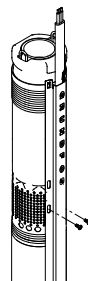

Fig. 10
3. Fasten the cable guard to the pump suction strainer with the two self-tapping screws supplied. See fig. 10.